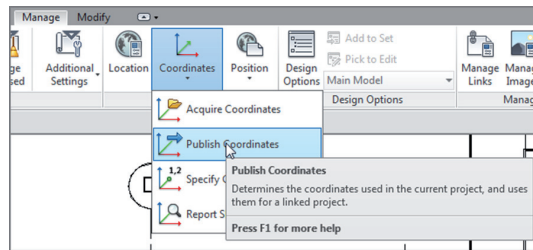

FIGURE BC6.21: Publishing the coordinates
1. On the Project Location panel of the Manage tab, click Coordinates > Publish Coordinates, as shown in Figure BC6.21.